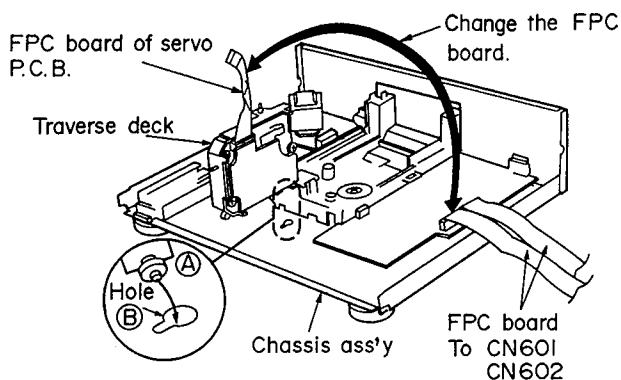

Fig. 4
Replace the FPC board for the servo P.C.B. (between CN102 and CN301) with the FPC board on the main P.C.B. (between CN401 and CN601 or between CN402 and CN602). (Reference the arrows in Fig. 4.)
2. Insert part (A) of the traverse deck into hole (B) of the chassis ass'y as shown in Fig. 4.